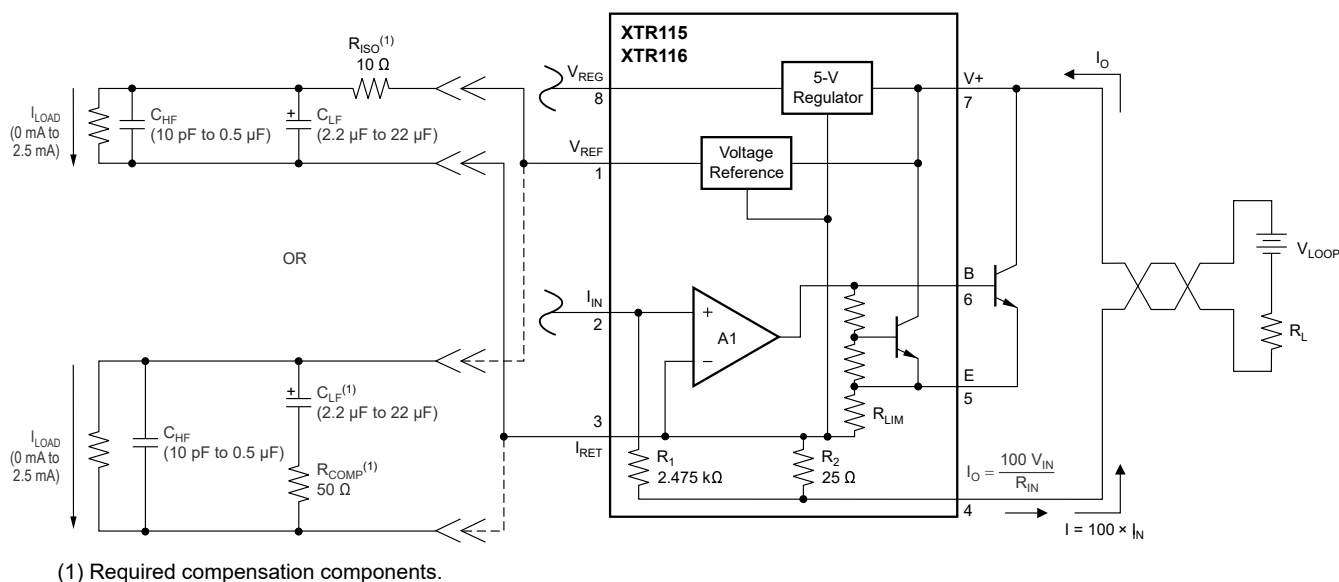

图 8-4. Stable Operation With Capacitive Load on V_{REF}
(1) Also see 图 8-4.
(2) See 节 8.1.1.
Additionally, stability concerns apply to the V_{REF} reference buffer when driving capacitive loads. 图 8-4 shows that two filtering capacitors are required, one C_{HF} of 10 pF to 0.5 μ F and another C_{LF} of 2.2 μ F to 22 μ F. Either a series isolation resistance R_{ISO} or a snubber R_{COMP} is used, depending on application requirements.